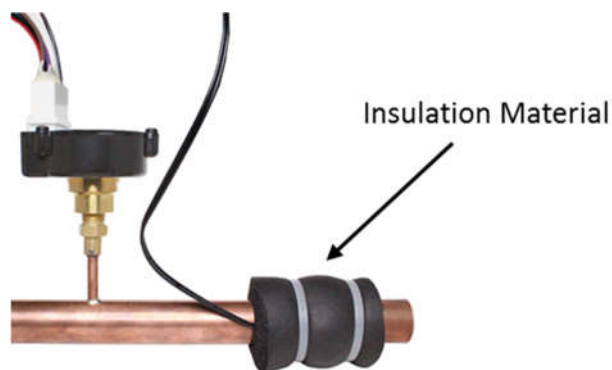

Figure 2-4 Insulation secured to the thermistor
6. Wrap the thermistor with the insulation material and secure the insulation in place using a zip tie. The final result should be similar to what is shown below **Figure 2-4**.